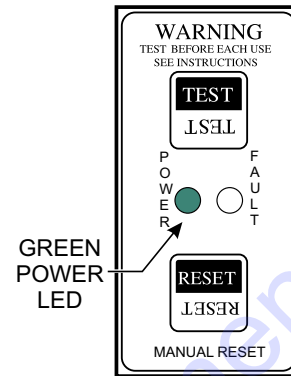

Figure 66. GFCI Sensing Module (Green LED ON)
3. On the GFCI sensing module (Figure 66), verify that the **green** POWER LED is **ON**.